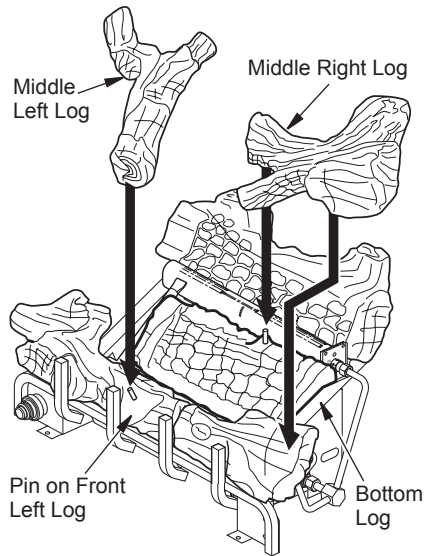

Figure 20 - Installing Log Set
5. Place middle right log over front right and bottom logs as shown in Figure 20. Be sure hole in middle right log seats over pin in bottom log.
6. Place middle left log over front left and bottom logs as show in Figure 20. Be sure hole in middle left log seats over pin in front left log.